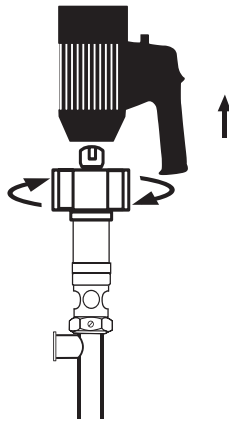

Figure 3
1. Remove motor from pump tube. For models SP-700SR: loosen Hex Nut in clockwise rotation (see Figure 3).